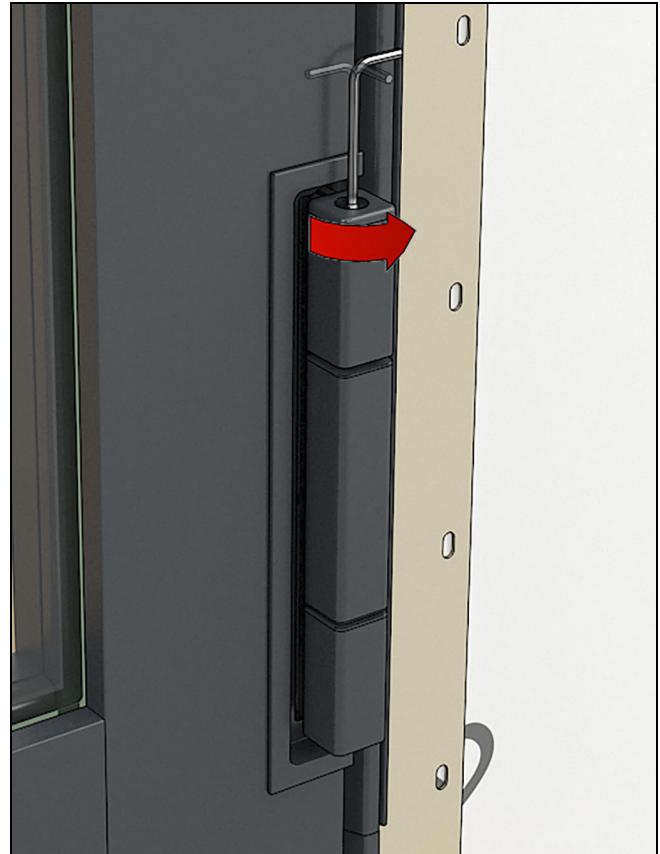
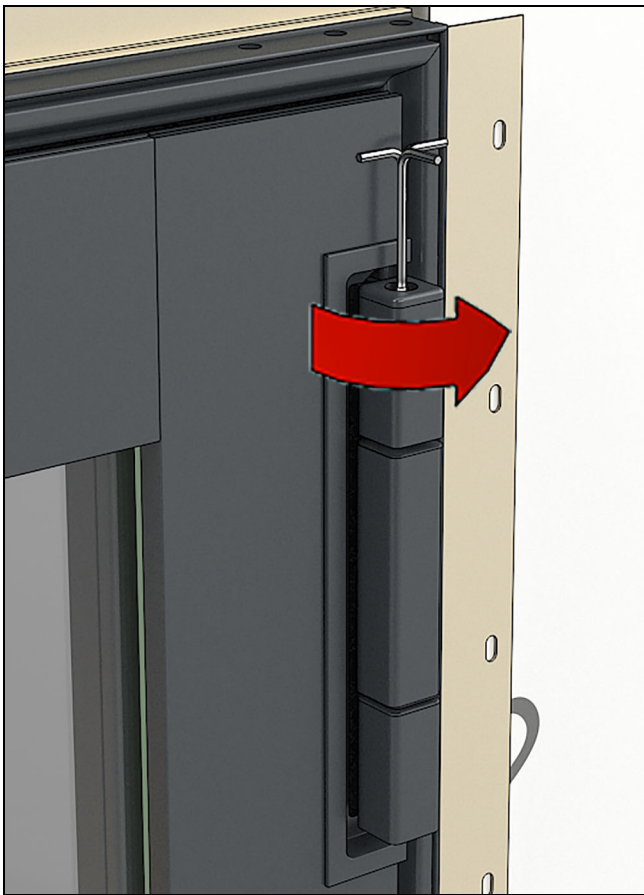

Figure 63 Bottom hinge
Figure 64 Top hinge
2. Starting with the panel in the closed position, use the 3mm wrench to loosen the top screw 3-4 revolutions on both top and bottom hinges. See Figure 63 and Figure 64.